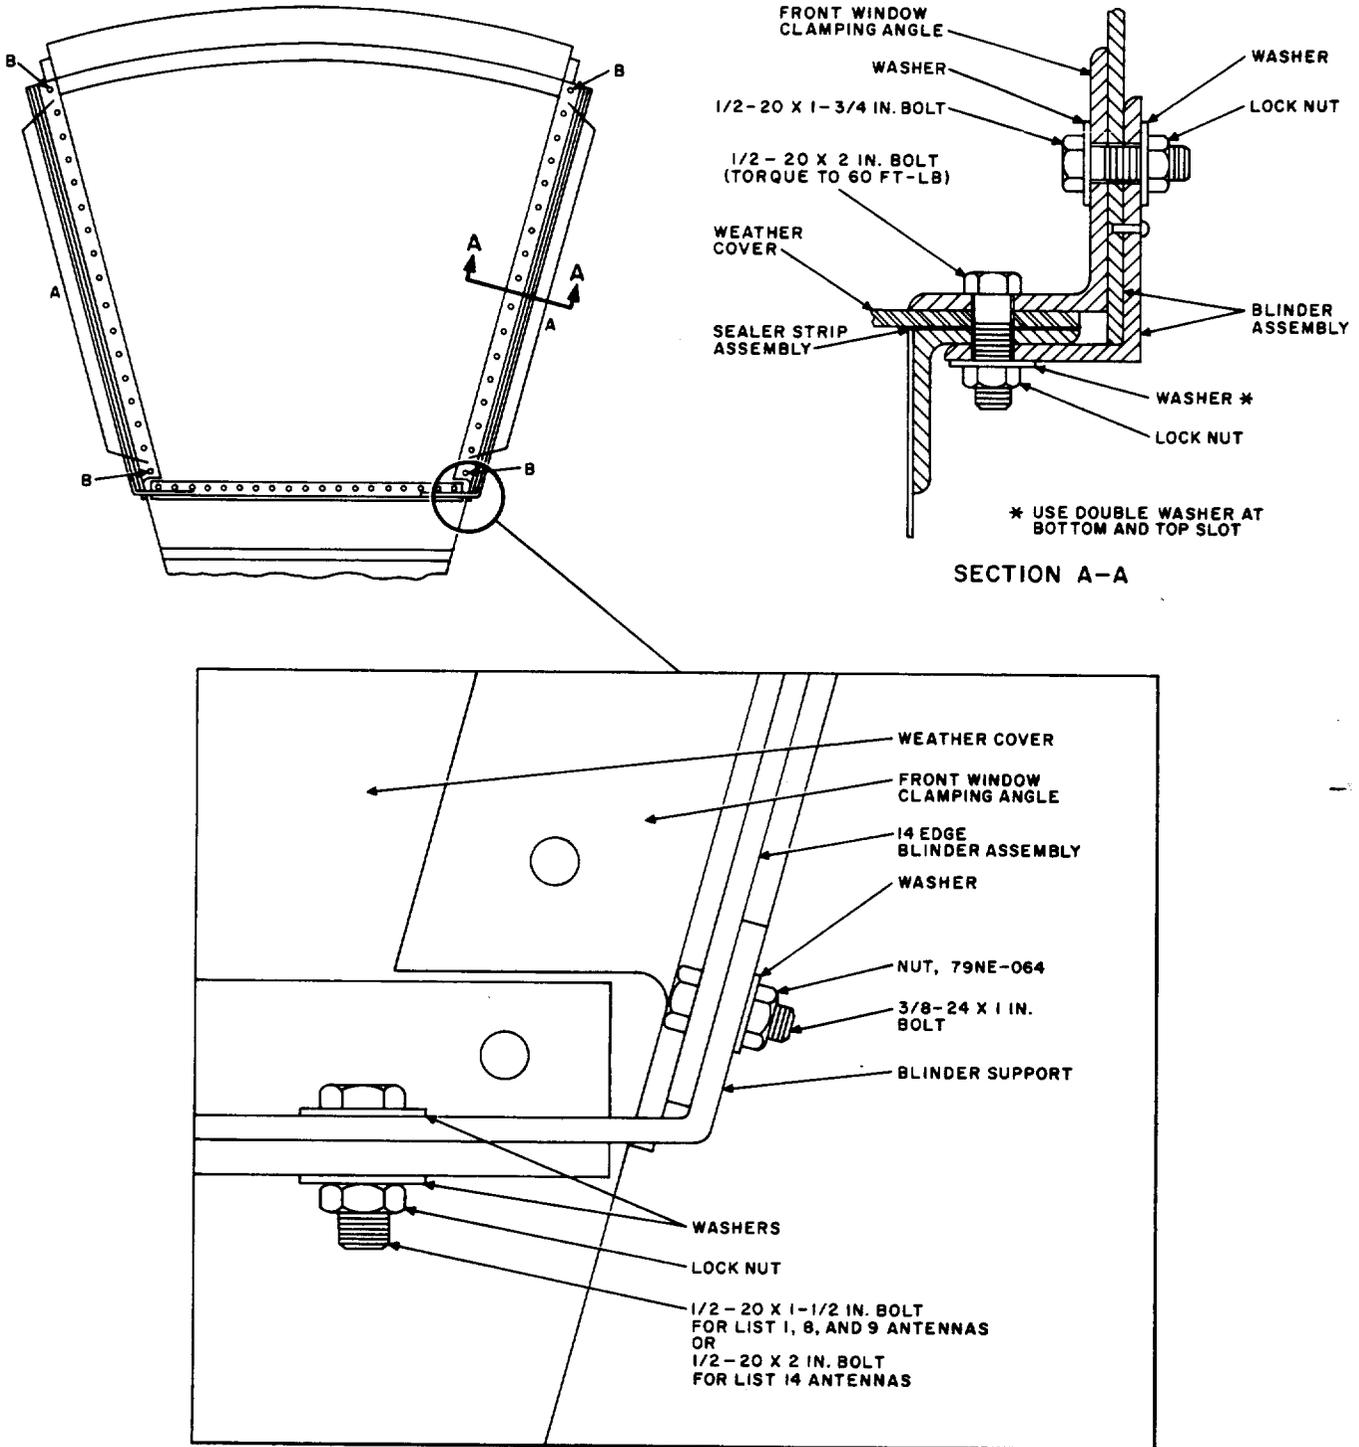

Fig. 13—KS-15676 Antenna Face and Blinder Assembly
5.48 Using the 1/2- by 2-inch bolts, mount the weather cover clamping angle and the 14-edge blinder assembly to the antenna as shown in Fig. 13 and 14. Reuse the nuts removed in 5.11. Tighten the nuts just enough to hold the cover in contact with the sealer strip.
5.55 Using a 1/2 by 20 by 1-3/4 inch bolt, two washers, and a nut, bolt the 14-edge blinder to the side of the front window clamping angle using the holes drilled in 5.54 (Fig. 13, section A-A).
5.58 Bolt the blinder support to the 14-edge blinder assembly using three 3/8- by 24- by 1-inch bolts (Fig. 13 and 14).
5.61 If the antenna is a List 1, 8, or 9, bolt the blinder support to the bottom of the 14-edge blinder assembly using three 3/8- by 24- by 1-inch bolts and tighten only fingertight (Fig. 13 and 14).
5.64 Bolt the blinder support to the lower window clamping angle using three 1/2 by 20 by 1-1/2 inch bolts. Place the bolts, nuts, and washers as shown in Fig. 13 and 14.
5.70 Remove the 1/2 by 1-1/2 inch bolts and nuts marked A (Fig. 13). Retain the nuts, as they will be reused in 5.73. Do not remove the bolts and nuts marked B at this time.
Note: Some antennas may have weather cover edge seal angles. The angle must be removed and discarded. To remove this angle, remove the bolts marked A and B (Fig. 13) and remove the edge seal angle. Care must be exercised not to damage the window seal or permit the window clamping angle to fall to the ground. Immediately rebolt the clamping angle to the antenna, using the holes marked B (Fig. 13).
5.71 Install the 14-edge blinder assembly as shown in Fig. 13, section A-A.
5.73 Install the 1/2- by 20- by 2-inch bolts in the A holes. Place a flat 9/16 by 1-3/8 by 3/32 inch washer and nut on each bolt. (See Fig. 13, section A-A.) Tighten each nut to a torque of 60 foot-pounds.